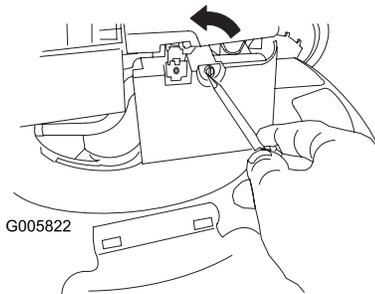

Figure 25
1. Use a screw driver to open the air filter cover (Figure 25).